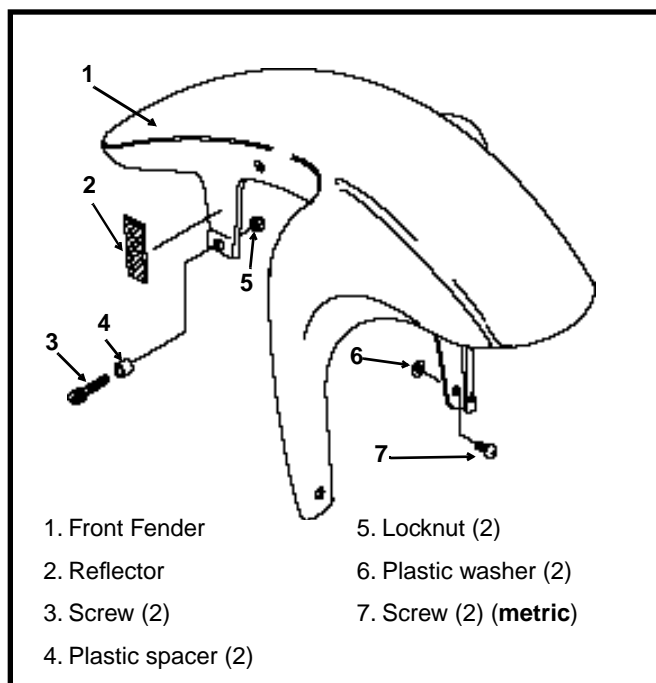

Figure 2. Front Fender
3. See Figure 2. Remove front fender attachment screws (7) metric and plastic washers (6). Remove front fender attachment screws (3), spacers (4) and locknuts (5).
4. Raise fender to remove screw (6), clamp (7), plastic flat washer (8), and nut (9) to detach brake line from fender.
5. Remove banjo bolt (1) and master cylinder gaskets (2) to detach brake line from master cylinder body. Discard gaskets.
6. Remove banjo bolt (11) and caliper gaskets (10) to detach brake line from front brake caliper. Discard gaskets.
7. Position **new** master cylinder gaskets (2) on each side of the banjo fitting. Insert banjo bolt (1) through gaskets and banjo fitting. Loosely install bolt into master cylinder.
8. From the master cylinder, the brake line runs downward in front of the right handlebar, where it turns inboard at the front fork upper bracket. Loosely install clamp (5), and screw (4) to attach front brake line to right side of front fork lower bracket.